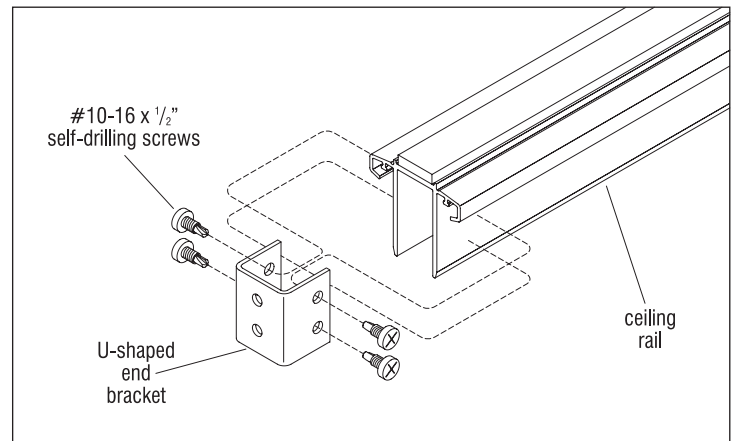

Figure 6
8. Ceiling rail end-of-run conditions can be secured to intersecting walls with the ceiling rail end bracket kit. Using the #10-16 x 1/2" self-drilling Torx head screws supplied with the kit, secure the U-shaped end bracket to the ceiling rail (Figure 6). If attaching to door frame at corner see step 10.